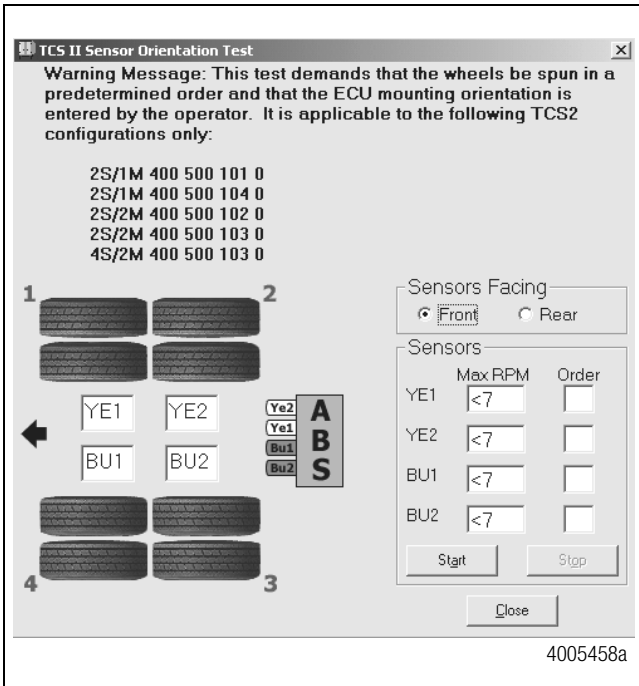
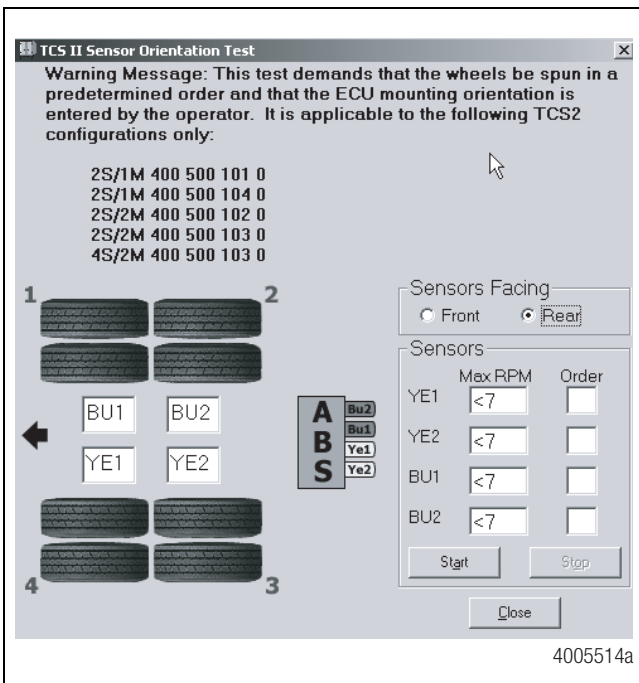

Figure 23
Figure 24
4. At the **Trailer Main Menu**, click on **Component Test**, then select **Sensor Orientation Test** to display the **Sensor Orientation Test** screen. Figure 23.
- Click on **Front** or **Rear** in the **Sensors Facing** field to select the mounting orientation of the ECU/dual modulator valve assembly. Figure 24.
Refer to Figure 23 and Figure 24 for illustrations of the ECU mounted with sensors facing forward and rear. The correct mounting orientation must be selected prior to starting the test (Step 5).
- Follow the screen prompts, starting with 1, to rotate each sensed wheel end at a rate of 1/2 revolution per second. This rate equals a wheel speed of approximately 4 mph (7 kph). As each sensed wheel is rotated, check the color of the sensor identification block on the screen for results. Sensor identification boxes are located in the bottom left portion of the **Sensor Orientation Test** screen. Figure 24.
- Verify there is sensor output. If there is no sensor output, verify that a tone ring has been installed and that the sensor is pushed all the way in against the tone ring. Perform the necessary repairs and repeat the test. If the problem persists, contact Meritor WABCO (800-535-5560). Sensor output appears in the Sensors field located in the bottom right portion of the **Sensor Orientation Test** screen. Figure 24.